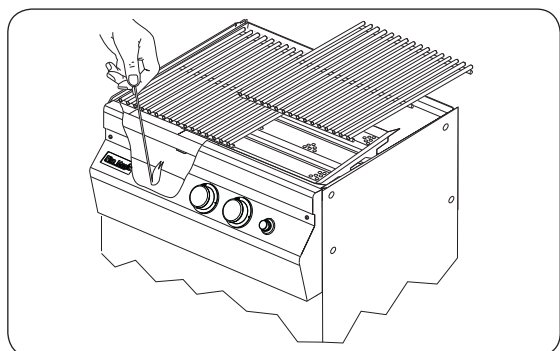
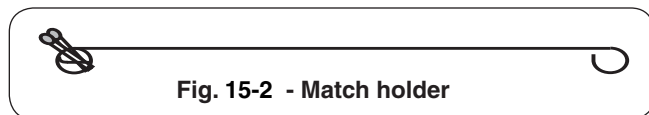

Fig. 15-3 - Manual lighting
Fig. 15-2 - Match holder
REMEMBER: FOR SAFE MANUAL LIGHTING, PLACE A BURNING MATCH OR BUTANE LIGHTER BESIDE THE BURNER - **THEN TURN ON THE GAS** (see Fig. 15-3).
2. Insert either a burning long-barrel butane lighter, a burning long-stem match, or a burning match held by a wire extension holder (Fig. 15-2) through the cooking grids to the burner. (Fig. 15-3). For backburners, hold the flame against the perforated material of the backburner. For sideburners, hold the flame against the burner.